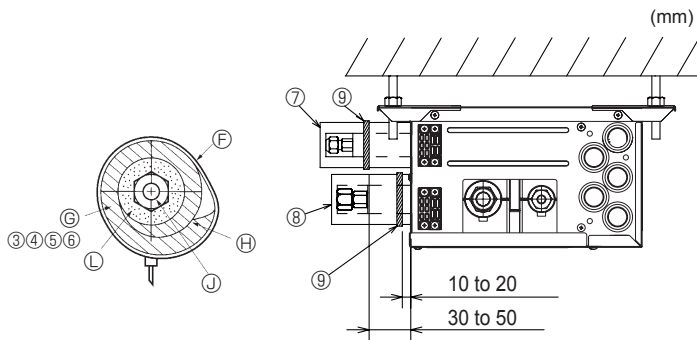
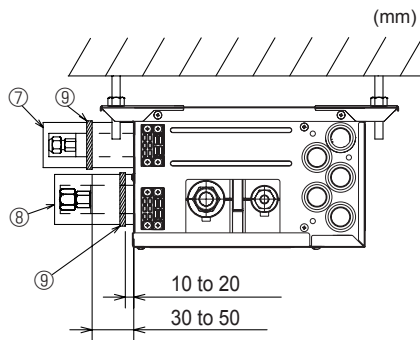

Fig. 7-3
Fig. 7-4
- (3) Connect the refrigerant piping immediately. Always tighten the flared nuts to the torque specified in the table 2 using a torque wrench and double spanner.
- (4) Press the pipe covers ③ and ⑤ on the liquid piping against the unit and wrap to hold in place. (Fig. 7-3)
- (5) Press the pipe covers ④ and ⑥ on the gas piping against the unit and wrap to hold in place. (Fig. 7-3)
- (6) Apply the supplied bands ⑨ at a position 10 - 20 mm from each end of the pipe covers (③④⑤⑥).
- (7) If the indoor unit is not connected, fit the supplied pipe covers (with caps, ⑦ and ⑧) to the branch box refrigerant piping connections against the unit to prevent condensation dripping from the pipes. (Fig. 7-4)
- (8) Clamp the pipe covers (⑦⑧) in place with the supplied bands ⑨.
- ⓕ Band ⑨
- ⓖ Pipe covers ③④⑤⑥
► Use the following procedures for indoor connection part which indoor unit is not connected. (Fig. 7-4)
- (1) In order to prevent refrigerant leaks, make sure that the flare nuts are tightened according to the specified torques\* in Table 3.